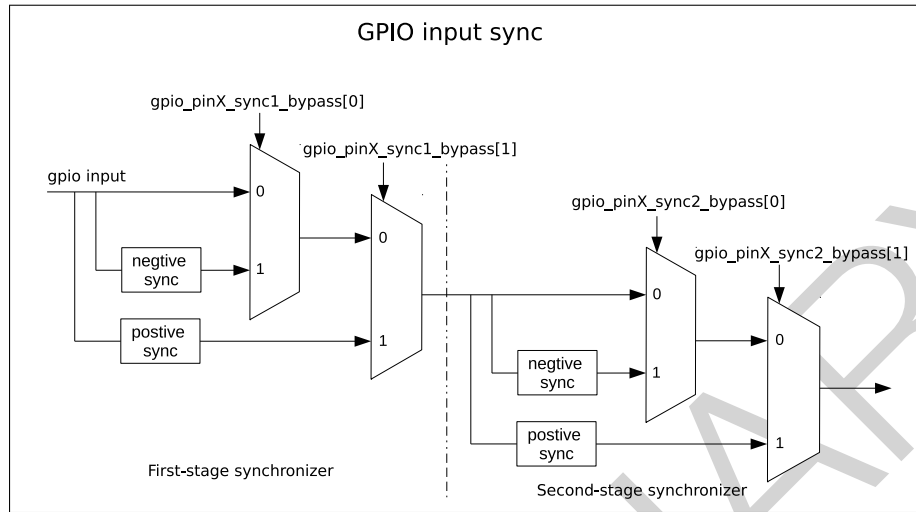

Figure 5-4. GPIO Input Synchronized on APB Clock Rising Edge or on Falling Edge
Figure 5-4 shows the functionality of GPIO SYNC. In the figure, negative sync and positive sync mean GPIO input is synchronized on APB clock falling edge and on APB clock rising edge, respectively.
- Set `GPIO_PINx_SYNC1_BYPASS` to enable input signal synchronized on rising edge or on falling edge in the first clock, see Figure 5-4.
- Set `GPIO_PINx_SYNC2_BYPASS` to enable input signal synchronized on rising edge or on falling edge in the second clock, see Figure 5-4.